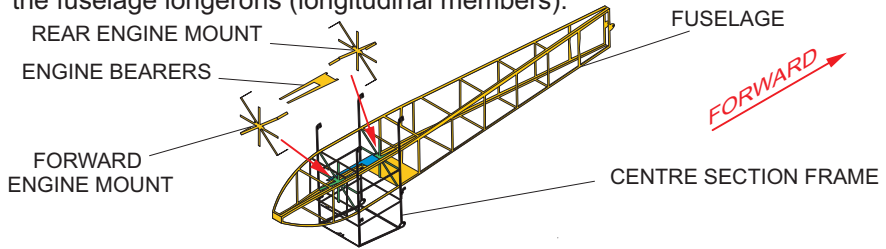

Figure 4
- H Attach the centre section frame to the fuselage as shown in Figure 4. The verticals of the centre section frame fit into recesses etched in the outside of the fuselage longerons (longitudinal members).